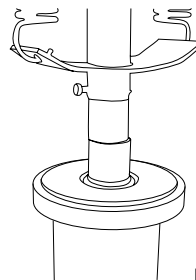

FIG 2
2. Use a press to push the bearing out ensuring the pipe underneath is larger than the bearing Fig 2